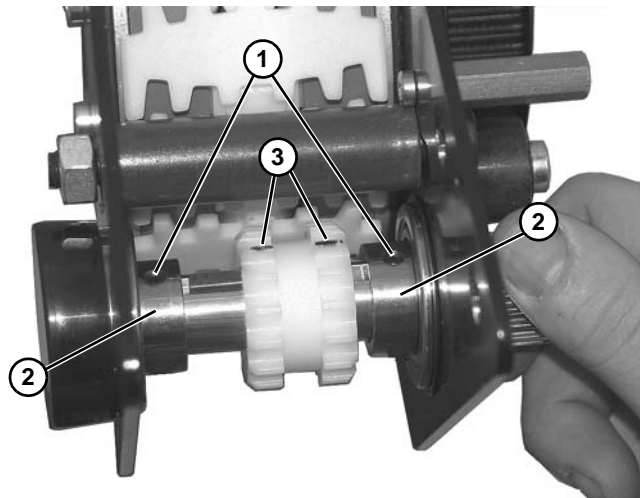

Figure 167
14. Loosen two set screws (**Figure 167, item 1**) on two bearings (**Figure 167, item 2**).
15. Loosen sprocket set screws (**Figure 167, item 3**).